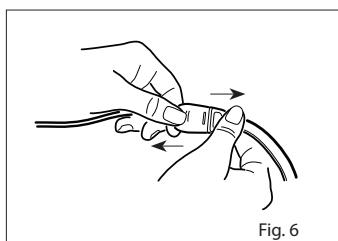

Fig. 6
- Refer to Fig. 6. Pull firmly on the sensor connector to remove it from the patient cable.